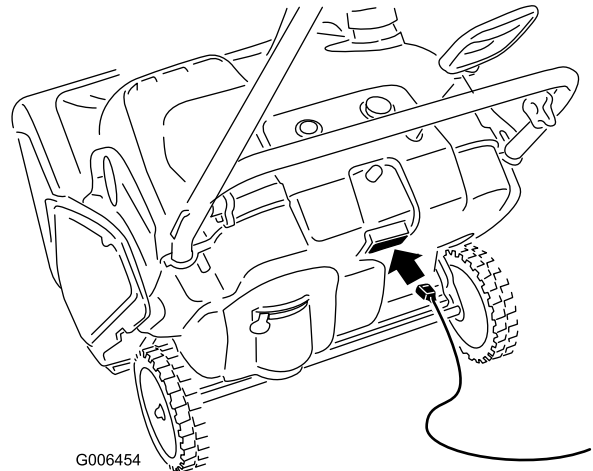
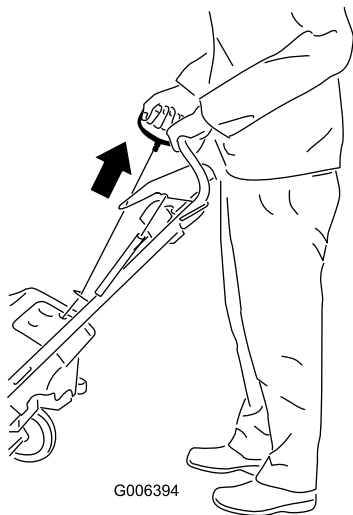

Figure 13
Figure 14
4. Connect an extension cord to a power source and the snowthrower, and push the electric-start button (model 38584 only) (Figure 13) or pull the recoil starter (Figure 14).